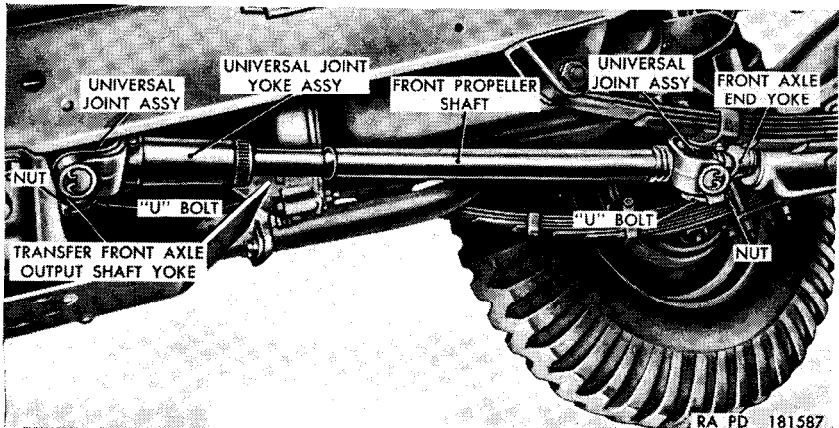
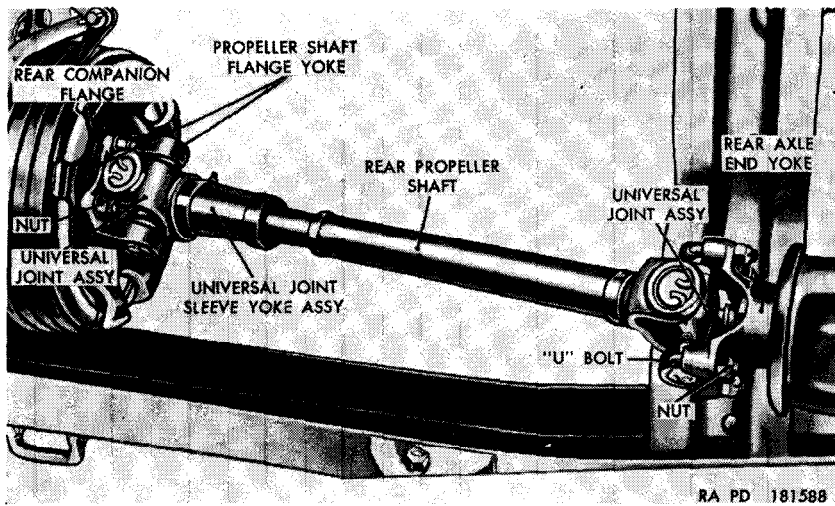

Figure 91. Front propeller shaft with universal joint assemblies—installed.
Figure 92. Rear propeller shaft with universal joint assemblies—installed.
a. *Description.* The front propeller shaft with universal joint assemblies (fig. 91) transmits power from the transfer to the front axle. The rear propeller shaft with universal joint assemblies (fig. 92) transmits power from the transfer to the rear axle. Each assembly includes a propeller shaft, a universal joint sleeve assembly, and two universal joint assemblies. Corresponding parts of both the front and rear assemblies are the same except for the length of the shaft and the front universal joint assembly of the rear propeller shaft. This universal joint assembly includes the propeller shaft flange yoke, and is modified accordingly. The four universal joint assemblies are roller bearing-types.
a. *Remove Front Propeller Shaft with Universal Joint Assemblies* (fig. 91).
- (1) Remove the four nuts from the two U-bolts holding the universal joint assembly to the transfer front axle output shaft yoke. Remove the two U-bolts and separate the joint from the yoke.
- (2) Remove the four nuts from the two U-bolts holding the universal joint assembly to the front axle end yoke. Remove the two U-bolts and remove the front propeller shaft with universal joint assemblies from the vehicle.
b. *Remove Rear Propeller Shaft with Universal Joint Assemblies* (fig. 92).
- (1) Remove the four nuts from the two U-bolts holding the universal joint to the rear axle end yoke. Remove the two U-bolts and separate the joint from the yoke.
- (2) Remove the four nuts and lockwashers holding the propeller shaft flange yoke to the rear companion flange and remove the rear propeller shaft with universal joint assemblies from the vehicle.
c. *Install Front Propeller Shaft with Universal Joint Assemblies* (fig. 91).
- (1) Position the universal joint assembly, on the end of the front propeller shaft, on the front axle end yoke. Install the two U-bolts over the ends of the universal joint and through the holes in the yoke, and secure in place with four  $\frac{5}{16}$ -inch nuts.
- (2) Position the universal joint assembly, on the end of the universal joint sleeve yoke assembly, on the transfer front axle output shaft yoke. Install the two U-bolts over the ends of the universal joint and through the holes in the yoke, and secure in place with four  $\frac{5}{16}$ -inch nuts.
*d. Install Rear Propeller Shaft with Universal Joint Assemblies (fig. 92).*
- (1) Position the propeller shaft flange yoke on the bolts projecting from the rear companion flange and secure in place with four lockwashers and nuts.
- (2) Position the universal joint assembly, on the end of the propeller shaft, on the rear axle end yoke. Install the two U-bolts over the ends of the universal joint and through the holes in the yoke, and secure in place with four  $\frac{5}{16}$ -inch nuts.
*Note.* The operations for removing and installing the universal joint assemblies from the front end of the front propeller shaft, the rear end of the rear propeller shaft, and the universal joint sleeve yoke assembly of the front shaft are exactly the same and will therefore be referred to figure 91 which shows the rear propeller shaft.
- (1) Remove rear propeller shaft with universal joint assemblies from vehicle (par. 209b).
- (2) Remove the two journal bearing snap rings (A) from the propeller shaft flange yoke (Y) by squeezing the open ends together with a pair of pliers. Place a brass drift against the end of one of the bearings (B) and drive it into the propeller shaft flange yoke (Y) until the bearing on the other end of the journal (F) is driven out of the yoke. Pull the bearing (B), journal bearing oil seal (C), and journal bearing oil seal retainer (D) from the journal, being careful not to lose the rollers. Using the brass drift against the end of the journal from which the bearing has just been removed, drive the journal back until the second bearing (B) has been driven out of the yoke. Pull the second bearing (B), journal bearing oil seal (C), and journal bearing oil seal retainer (D) from the journal, being careful not to lose the rollers. Slide the yoke to one side of the journal and work the journal out of the yoke.
- (3) Remove the two journal bearing snap rings (A), bearings (B), journal bearing oil seals (C), and journal bearing oil seal retainers (D), holding the journal (F) to the universal joint sleeve yoke (G), following the procedures given in (2) above.
- (1) Remove front propeller shaft with universal joint assemblies from the vehicle (par. 209a).
- (2) Remove the universal joint assembly (fig. 91) from the front universal joint sleeve yoke assembly following the procedure given in *b*(2) above.
- (2) Remove universal joint assembly (fig. 91) from the front propeller shaft following the procedures given in *b*(2) above.
*f. Install Universal Joint Assembly in Front Universal Joint Sleeve Yoke Assembly.* Install the universal joint assembly (fig. 91) in the front universal joint sleeve yoke assembly following the procedures given in *e* above.
*g. Install Universal Joint Assembly in Rear Propeller Shaft.* Install the universal joint assembly in the propeller shaft (L) following the procedures given in *e* above.
- (1) Install the universal joint assembly in the universal joint sleeve yoke (G) following the procedures given in *e* above.
- (2) Install the propeller shaft flange yoke (Y) on the two remaining bearings (B) of the universal joint assembly installed in (1) above. Follow procedures given in *e* above.
*a. General.* The universal joint sleeve yoke assemblies (figs. 91 and 92) used on the front and rear propeller shafts are practically identical and removal and installation procedures will be referenced to the rear sleeve yoke illustrated in figure 91.
yoke (fig. 91), put the two U-bolts over the bearings and through the holes in the shaft yoke, and install the four  $\frac{5}{16}$ -inch nuts.